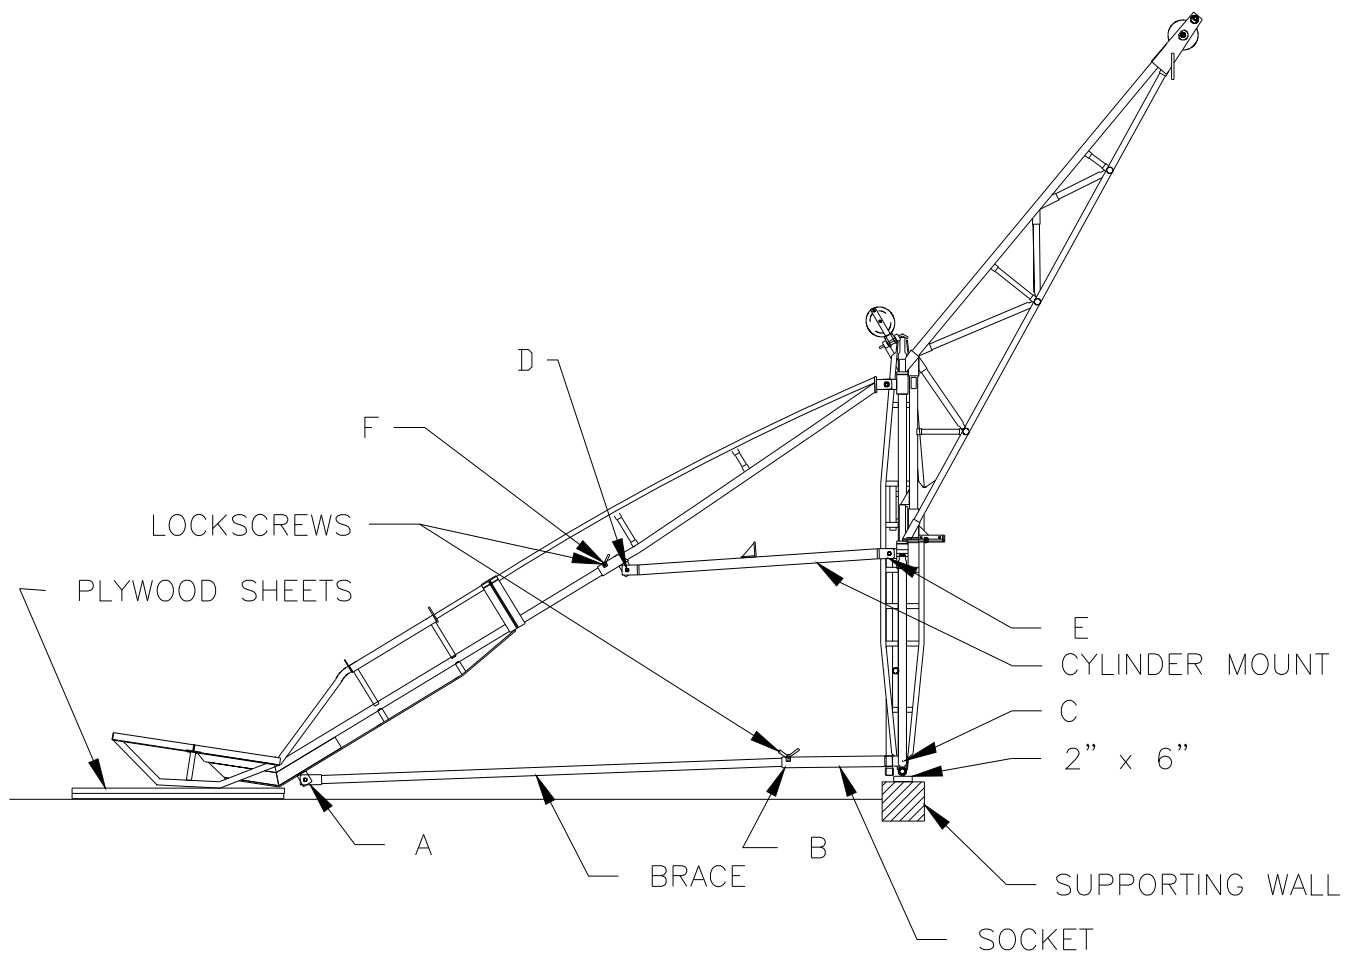

Figure 5-1.
5. Loosen the lockscrews at point B (Figure 5-1).
6. Remove Brace from Counterweight Leg by removing the pin and hairpin at point A. See Figure 5-1.
7. Remove the Socket from the Front Leg by removing the pin and hairpin at point C. Then slide the socket out of the brace. See Figure 5-1.
8. Remove the Cylinder Mount by removing the pins and hairpins at points D and E. See Figure 5-1. Loosen lockscrews as necessary on sliding tube connecting Cylinder Mount to Counterweight Leg. Have one person steady the frame while doing this.